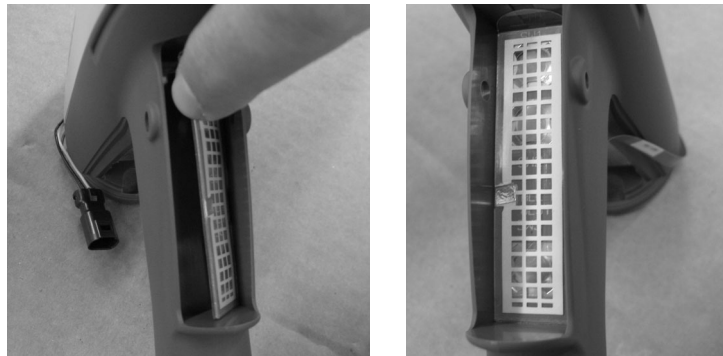

Figure 6-12 Installing the Trigger Switch – Step 4
4. See Figure 6-12. Peel the adhesive release liner from the switch.